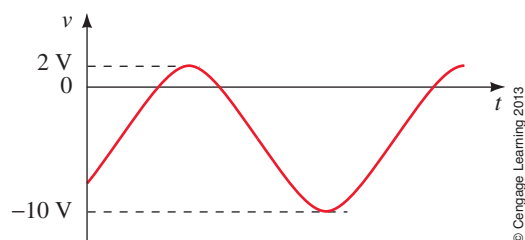

FIGURE 15-93
60. Compute the effective value for Figure 15-93.